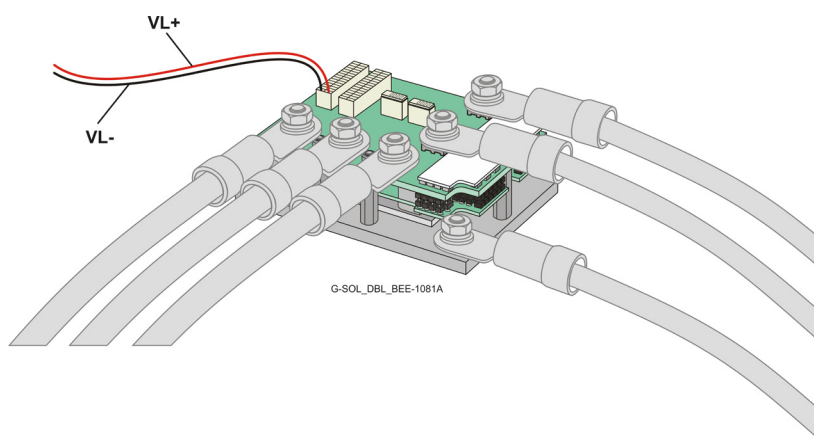

Figure 11: Connecting the Control Supply Wires
- Connect the VL+ and VL- wires to the terminals on the servo-drive as shown in Figure 11.